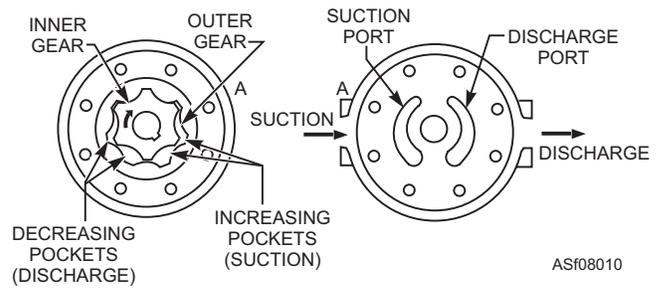
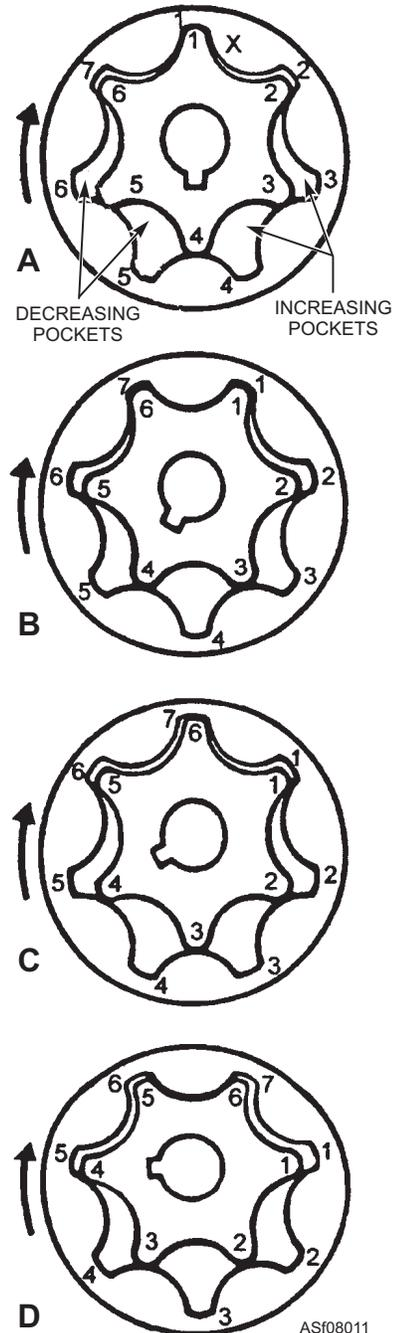

Figure 8-10.—Internal gear pump.
Figure 8-11.—Principles of operation of the internal gear group.
**INTERNAL GEAR PUMPS.**—Another common style is the internal gear pump, shown in figure 8-10. This pump consists of a pair of gear-shaped elements (one within the other) located in the pump chamber. The inner gear is connected to the drive shaft of the source of power. In figure 8-10, you are shown both the front and the back of the mechanism. Figure 8-11 illustrates the operation of this pump.
In figure 8-11, the teeth of the inner gear and the spaces between the teeth of the outer gear are